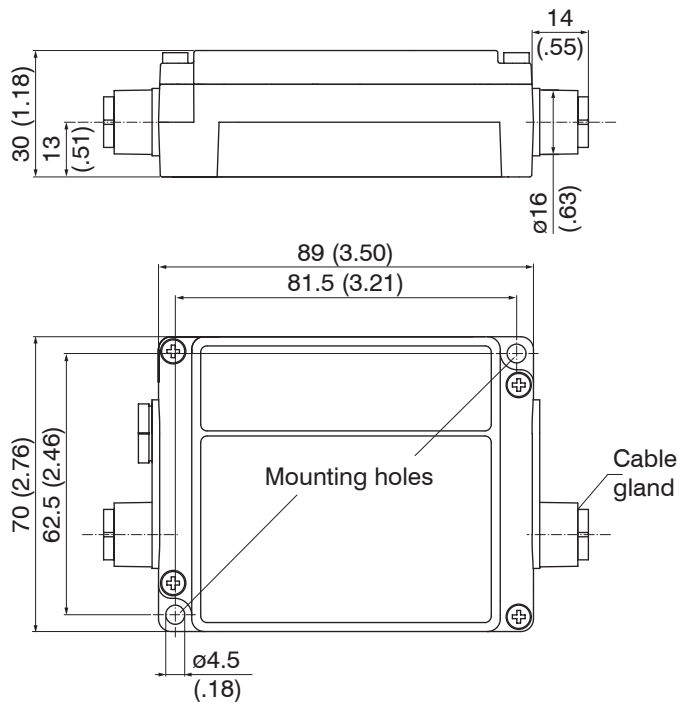

Fig. 8 Dimensional drawing controller MSC7210, dimensions in mm (inches), not to scale
- ➡ Pass the sensor and signal cables through the cable glands, see Fig. 8.